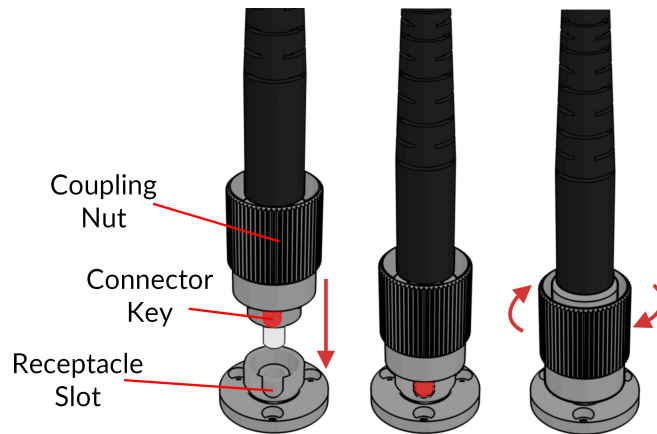

Figure 3.2: FC connector, Fiber Installation
2. With an FC connector, the connector key must be oriented to enter within the receptacle slot to ensure proper connection (Fig. 3.2).